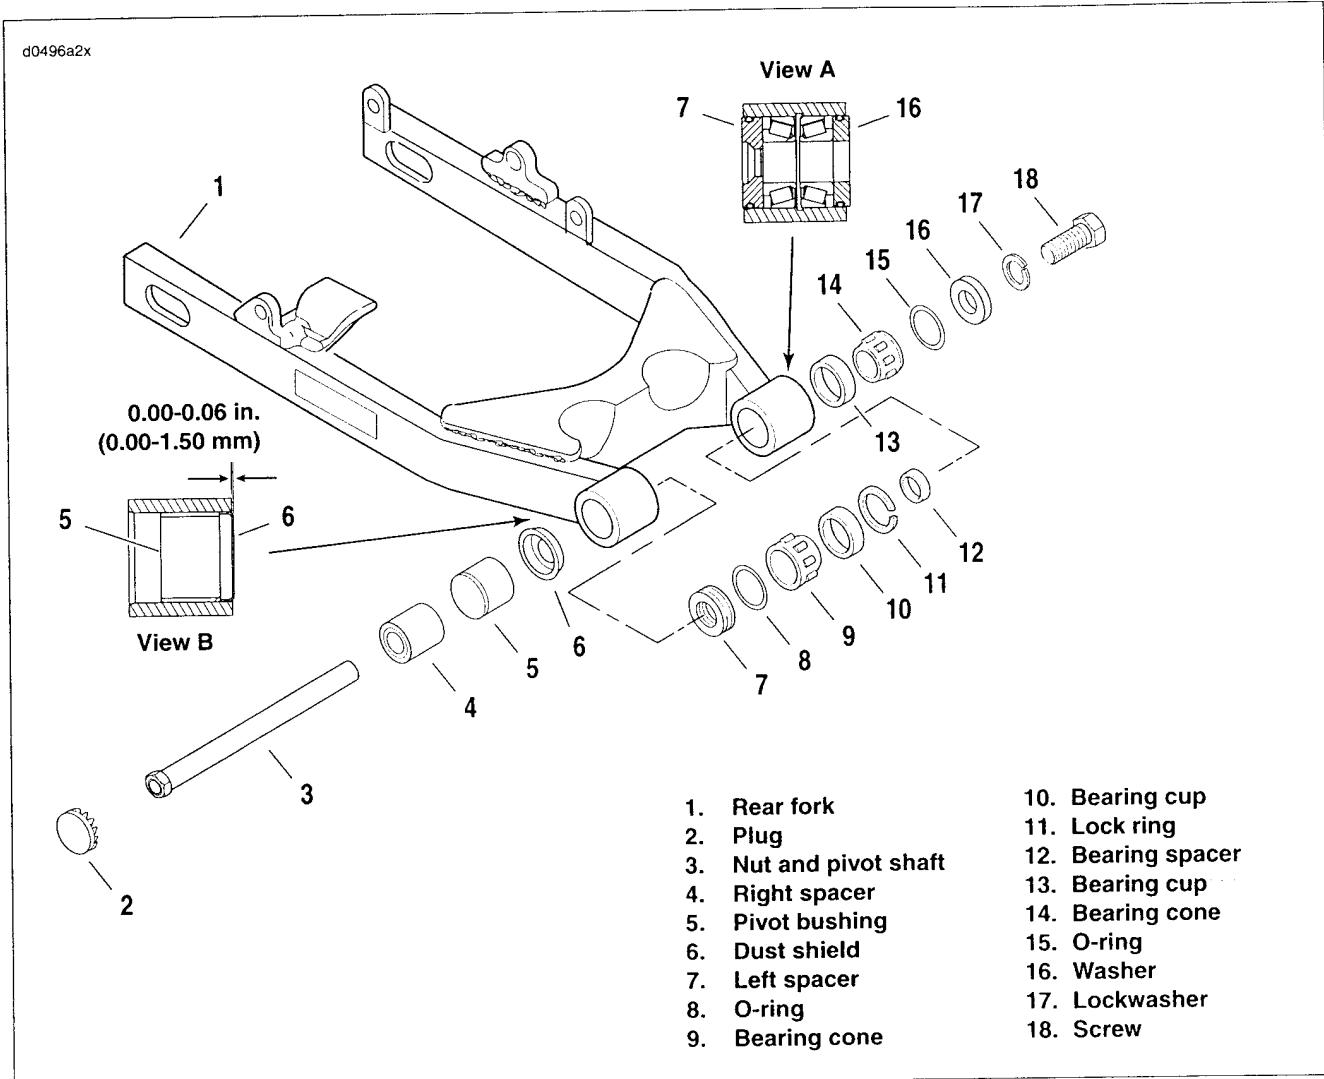

Figure 2-107. Rear Fork
5. See Figure 2-107. Remove plug (2).
6. Remove screw (18) and lockwasher (17).
7. Remove pivot shaft with attached nut (3). Support rear fork (1) and pull assembly from frame.
1. See Figure 2-107. Remove washer (16), spacers (7, 4), bearing cones (9, 14) and bearing spacer (12).
2. See Figure 2-107. Check condition of O-rings (8, 15) in washer (16) and spacer (7). Install new O-rings if required.
1. See Figure 2-107. If necessary, install new lock ring (11) and press new bearing cups (10, 13) into position.
2. See Figure 2-107. Hold fork assembly in position and install the pivot shaft with attached nut (3). Place lock-washer (17) over screw (18) and install next to washer (16). Tighten screw to 45-50 ft-lbs (61.0-67.8 Nm).